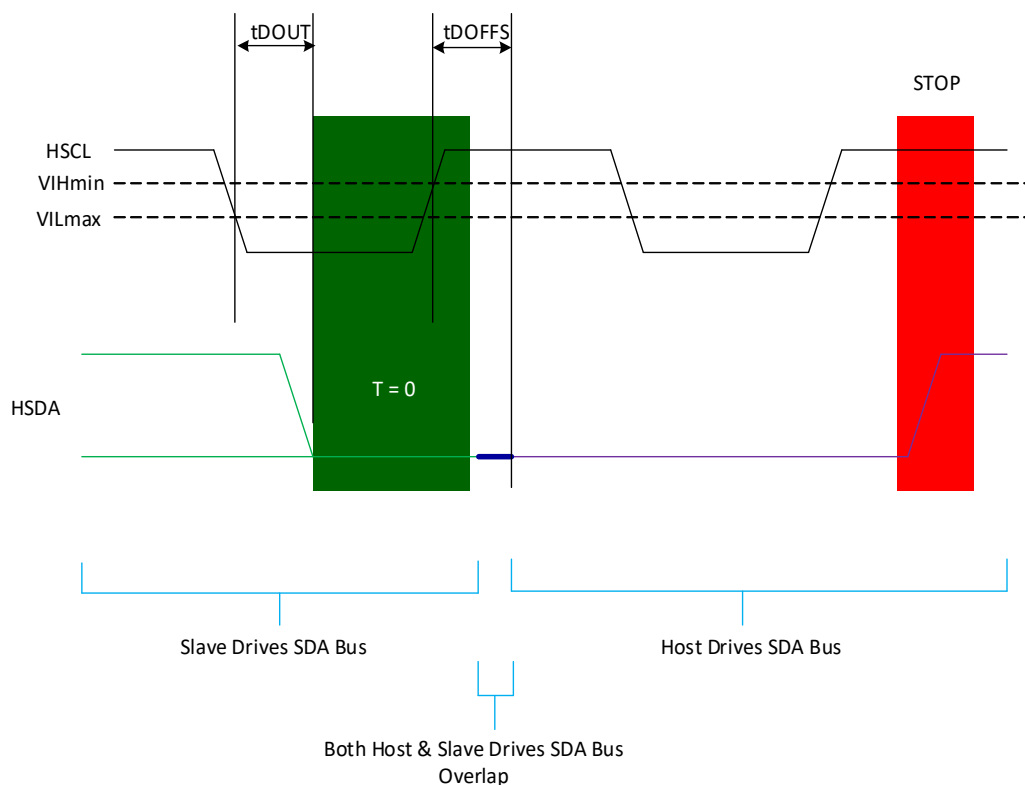

Figure 17. $T = 0$; Slave Ends Read; Host Generates STOP
- Figure 17 shows how the slave device ends the operation followed by Host STOP operation.
2. Figure 17 shows how the slave device ends the operation followed by Host STOP operation.